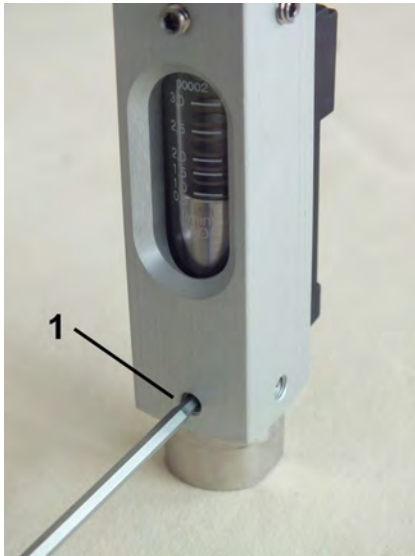

Fig. 47: Secure the process connection (inlet)
9.  Secure the inlet process connection to the device housing with 4 hex socket screws (Fig. 47/1) observing the proper torque. (  Chapter 11.1 "Tightening torque" on page 72)